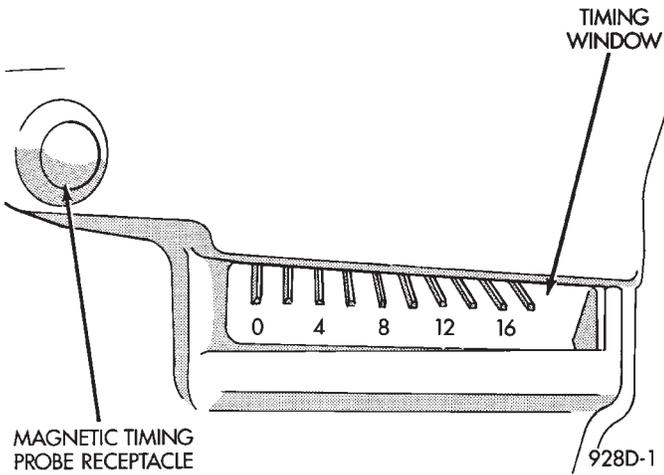
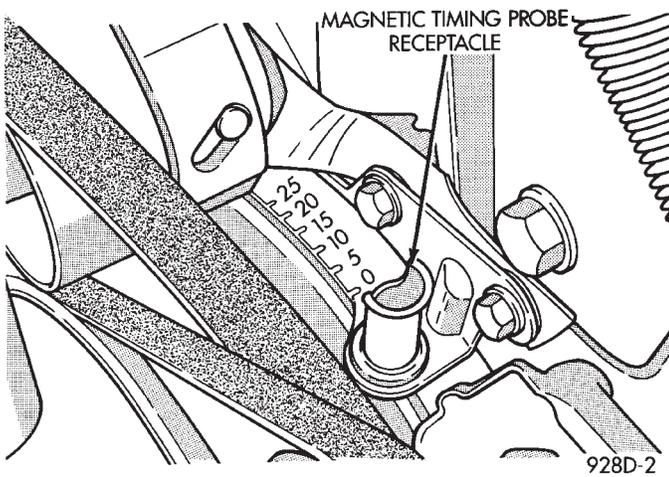

Fig. 10 Timing Scale—2.2L TBI, 2.5L TBI and Turbo I Engines
Fig. 11 Timing Scale—3.0L Engine
- (3) Turn selector switch to the appropriate cylinder position.
- (4) Start engine and run until operating temperature is obtained.
- (5) With the engine at normal operating temperature, connect the DRB II to the diagnostic connector. Access the State Display screen. Refer to the appropriate Powertrain Diagnostics Procedures Manual. **If not using the DRB II tester, disconnect the coolant temperature sensor electrical connector.** The electric radiator fan will operate and the Check Engine light will turn on after disconnecting the coolant sensor or starting the DRB II procedure.
- (6) Aim Timing Light at timing scale (Fig. 10 or Fig. 11) or read magnetic timing unit. If flash occurs when timing mark is before specified degree mark, timing is advanced. To adjust, turn distributor housing in direction of rotor rotation.